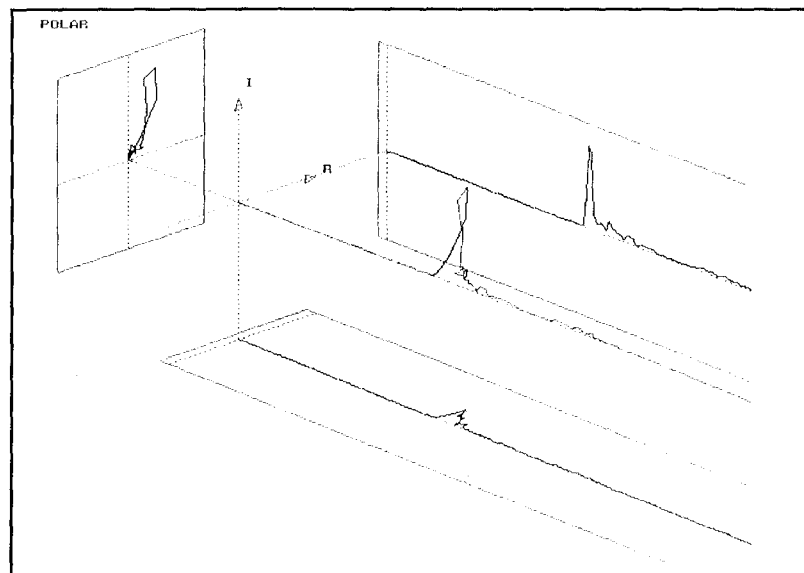

Figure 2
**Figure 2.** Evoked potentials of a subject who has just seen a number flash on a screen are shown in blue. In red, the subject's response to the same stimulus, after he is told that he can earn one dollar every time the number appears. Notice the positive component that pops up at 300 ms. This component, Dr. Begleiter noted, is a measure of how significant the stimulus seems to the subject.
the remarkable differences between humans, their sensory capabilities and their motivation are not directly observable. A recent measurement of brain responses reveals what has been termed an "Evoked potential." Fig. 2 shows one "trigger" mechanism that evokes the participants potential.